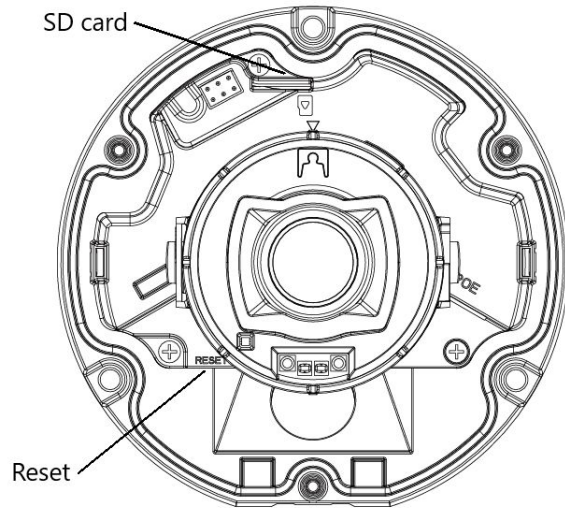

Figure 1-9
**Step 1** Use the supplied hex wrench to unscrew the camera dome cover. Please refer Figure 1-9 for SD card slot and reset location.